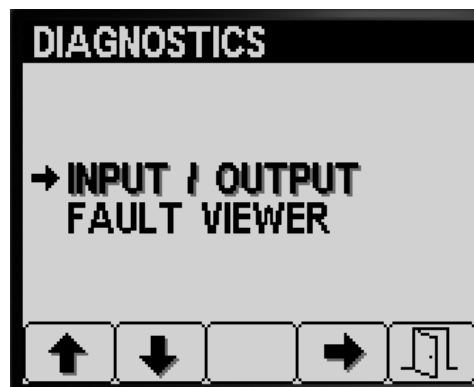

Figure 84
1. Press button 1 or 2 on the Diagnostics screen until you reach the INPUT/OUTPUT option (Figure 84).
2. Press button 3 to select the INPUT/OUTPUT entry (Figure 84).
- Press button 5 to exit the INPUT/OUTPUT screen, and return to the DIAGNOSTIC screen (Figure 84).